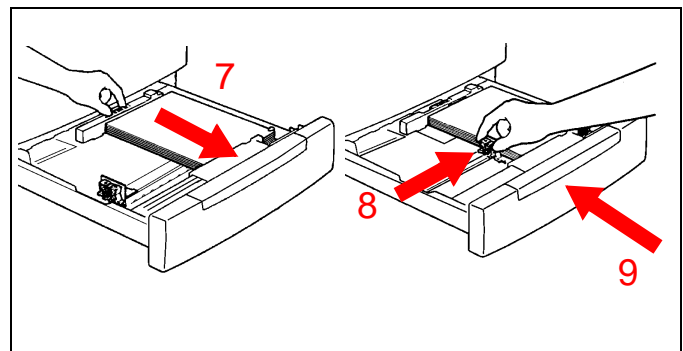

Figure 3
7. See Figure 3. Set the rear paper guide to the length of the paper.